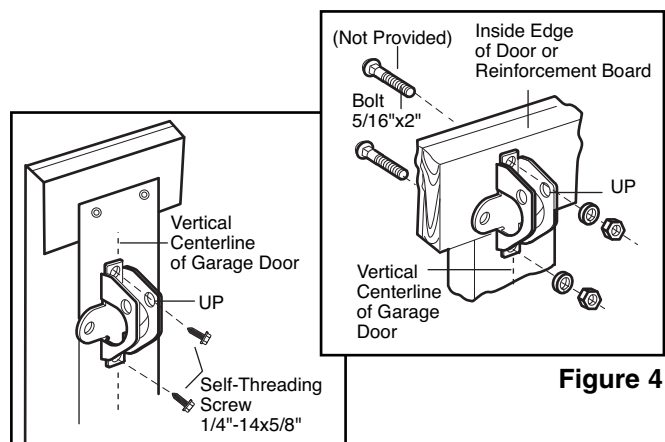

Figure 3
- Drill 3/16" fastening holes. Secure the door bracket using the self-threading screws. (Figure 3)